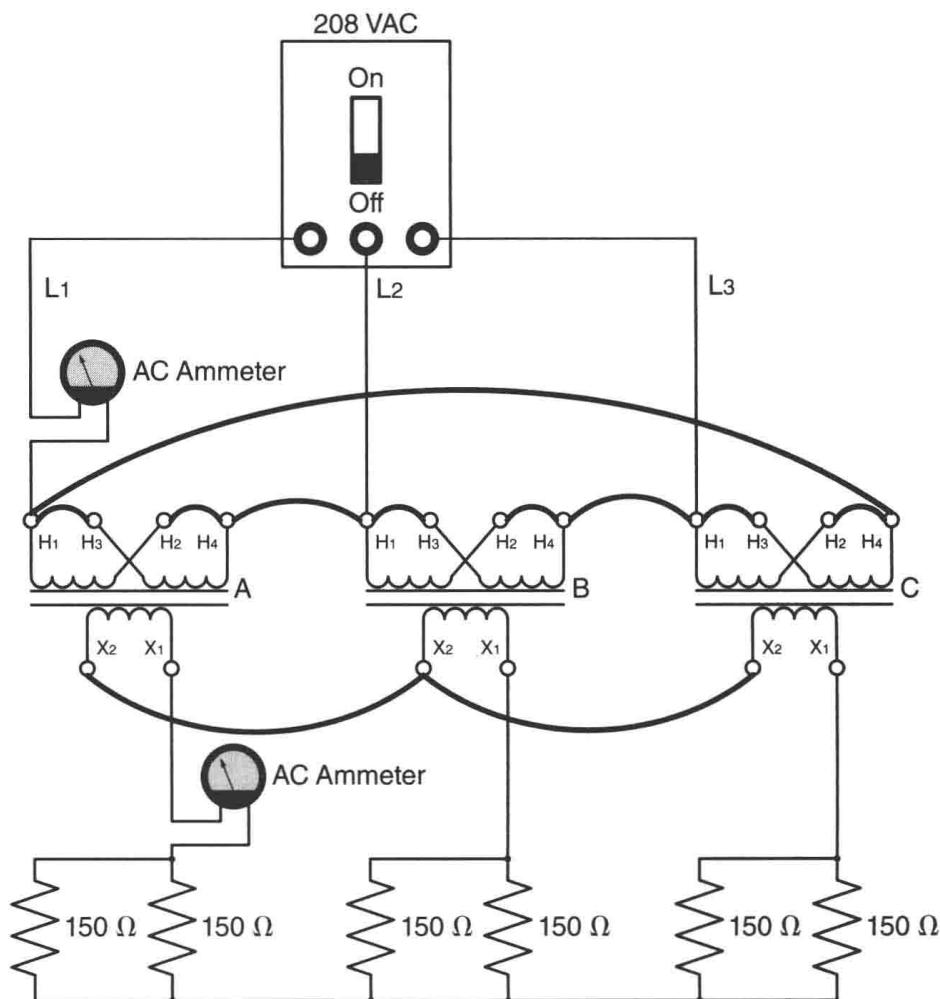

Figure 24-18 Adding load to the transformers.
17. Connect a second 150-ohm resistor in parallel with each of the load resistors, as shown in Figure 24-18. This will provide a resistance of 75 ohms for each phase of the load.